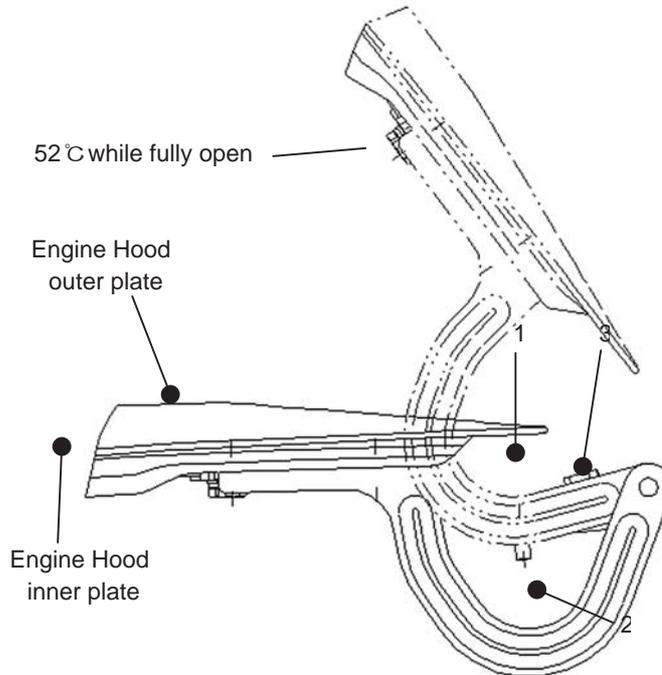

Figure 5-8 Engine Hood Hinge
1. Engine hood is mainly used to protect the engine, meet the whole vehicle design, and make the maintenance convenient. It also has an effect of isolating the engine noise. The engine hood has a double-insurance lock system. The release of the first lock is controlled by the drawing cable that is under the instrument panel. As to the release of the second lock, you should firstly release the first one and the hood will open, and then move the hood lock hook. The double-insurance lock system is designed for safety, especially in the course of running with a high-speed, to prevent the engine hood from being raised, which often causes traffic accidents. The angle of the hood that is fully opened is  $52^{\circ}$ . As shown in Figure 5-8